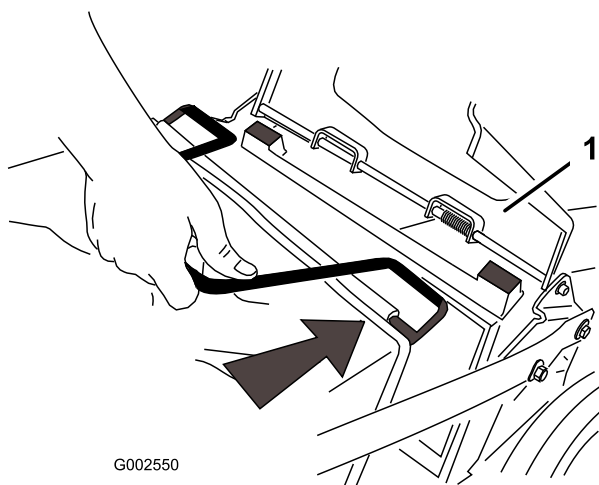

Figure 19
2. Raise and hold up the rear door (Figure 19).